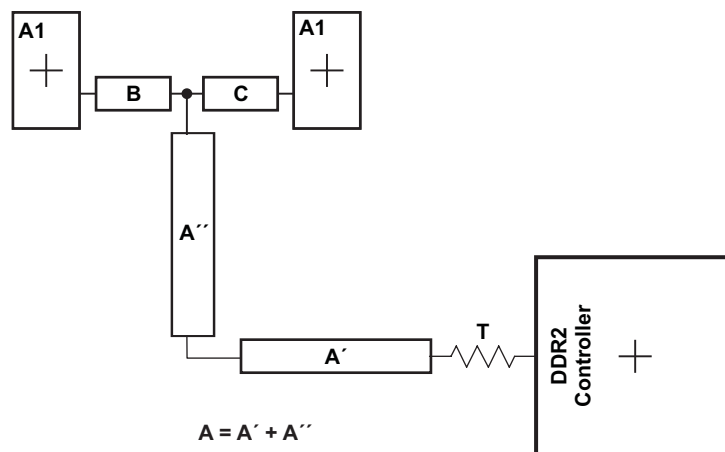

Figure 8-10. CK and ADDR_CTRL Routing and Topology
Figure 8-10 shows the topology of the routing for the CK and ADDR_CTRL net classes. The route is a balanced T as it is intended that the length of segments B and C be equal. In addition, the length of A ($A' + A''$) should be maximized.
- (1) The length of segment $A = A' + A''$ as shown in Figure 8-10.
(2) Center-to-center spacing is allowed to fall to minimum (w) for up to 500 mils of routed length to accommodate BGA escape and routing congestion.
(3) CACLM is the longest Manhattan distance of the CK and ADDR_CTRL net classes.